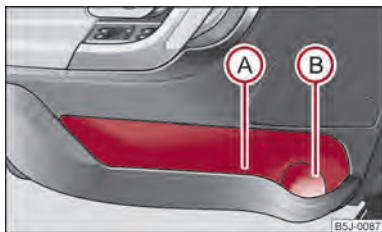

Fig. 70 Stowage compartment in door panel
Use the area (A) ⇒ fig. 70 of the storage compartment only for storing objects which do not project so that the effectiveness of the side airbag is not impaired.